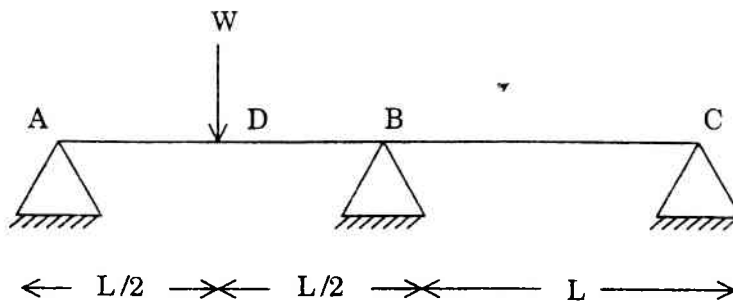

Fig. 3.
13. A continuous beam ABC is loaded as shown in Figure 3, Determine all reactions and draw bending moment and shear force diagrams using strain energy method.